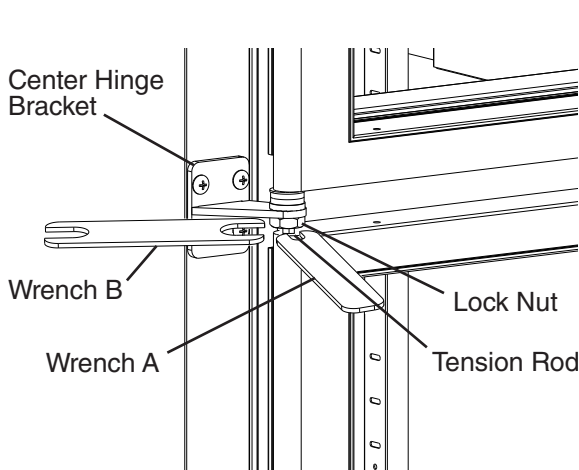

Fig. 63
- 23) Place wrench B on the tension rod and rotate counter-clockwise to add tension to the tension rod. Without releasing the pressure on wrench B and the tension rod, use wrench A to tighten the lock nut. See Fig. 63.